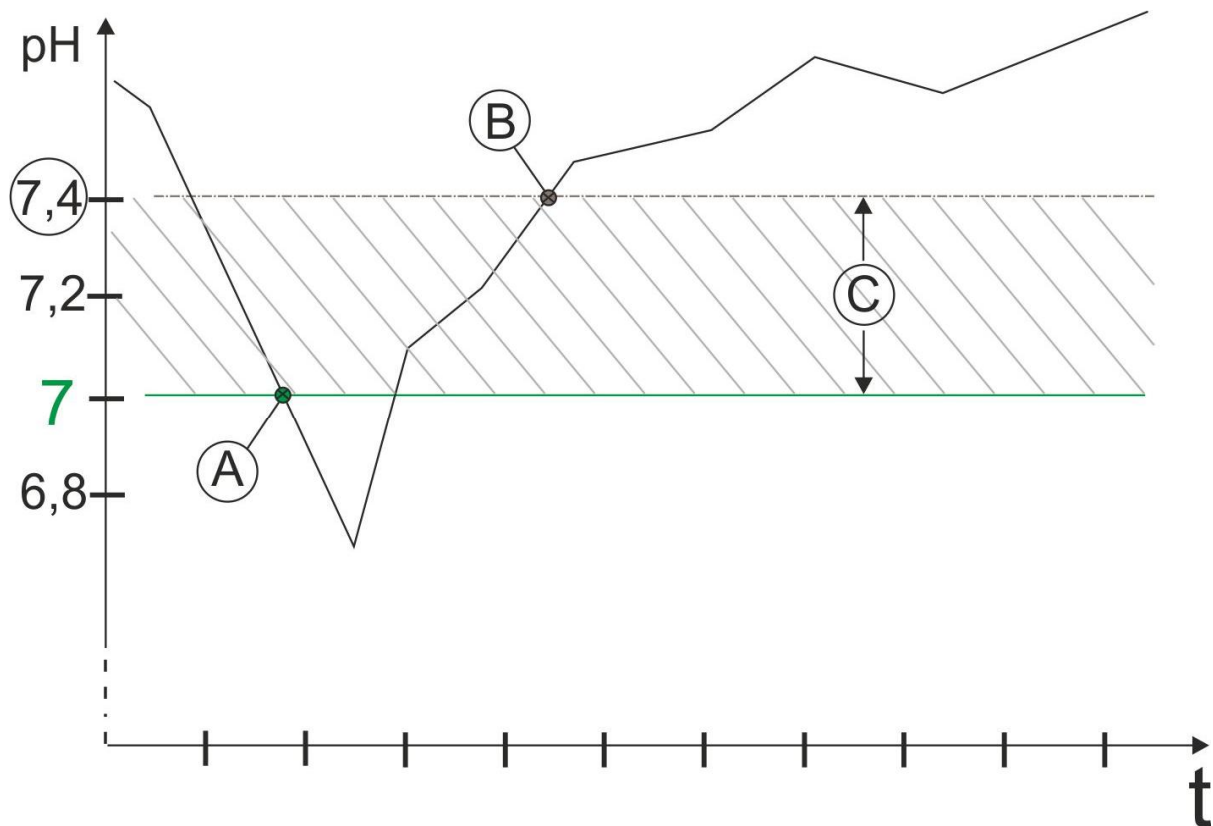

Figure 2 Low Setpoint
- The values of an exceeded **LOW** Setpoint with date/time (see figure 2, Values A and B)